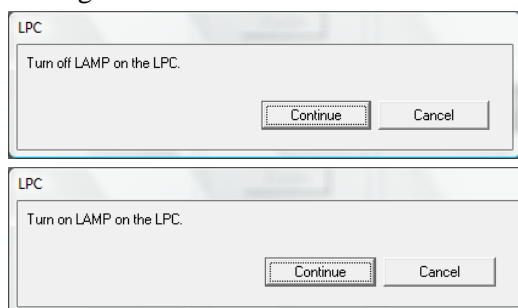

Figure 5. Instructions for controlling the **LAMP** switch.
9. A hardware initialisation is started only if the option **Skip Version Control** is deselected. The LMS version is identified and the optimal parameters for communication with the LMS are set. When the LMS version dialog box is displayed you click the **OK** button to start the parameter download sequence, see Figure 5.